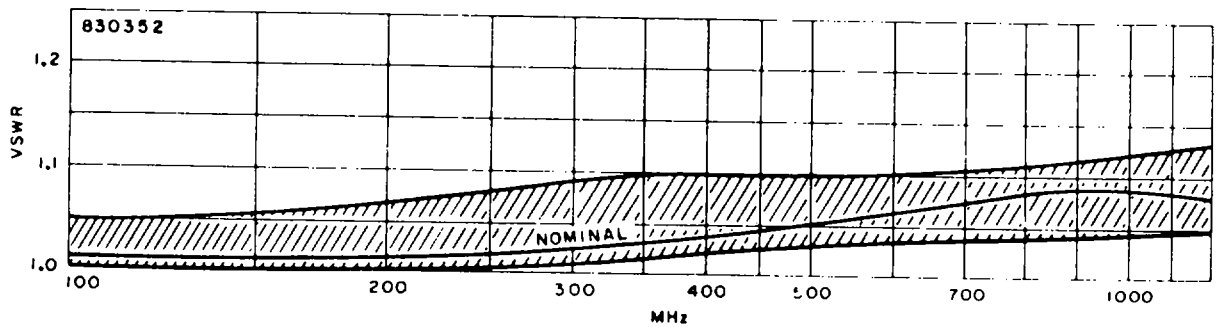

Figure 4. Typical VSWR of Model 91-12F RF Probe with Model 91-14A Type N Tee Adapter and Model 91-15A 50Ω Termination
- Model 91-14A, 50 Ω Tee Adapter. Type N Tee Connector; with Model 91-15A termination (see below) permits connecting into 50-ohm line; required for measurements above approximately 100 MHz; for VSWR see curve of Figure 4.